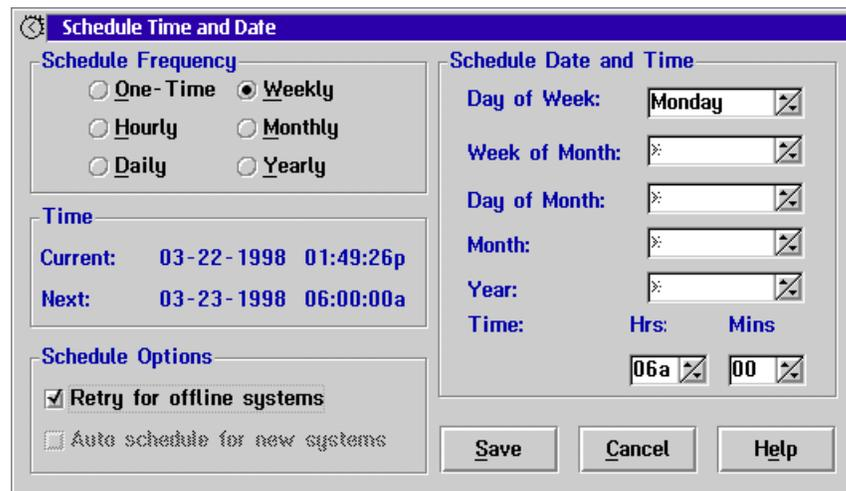

Figure 39. Configuring the Schedule
When you only have a small number of servers to scrub, we recommend you configure the schedule for each server individually, either locally on the server or through the Remote Systems Manager. This will ensure the scrub will occur as scheduled regardless of any network problems that may occur. If you have many servers, however, it would make sense to configure the schedule for all servers at once. In this case, ensure you have **Retry for offline systems** checked in Figure 39 on page 59.
5. Select the system or systems you want to schedule and click on the **Schedule** button. In this case this is the local server we are working on. Figure 39 on page 59 appears.